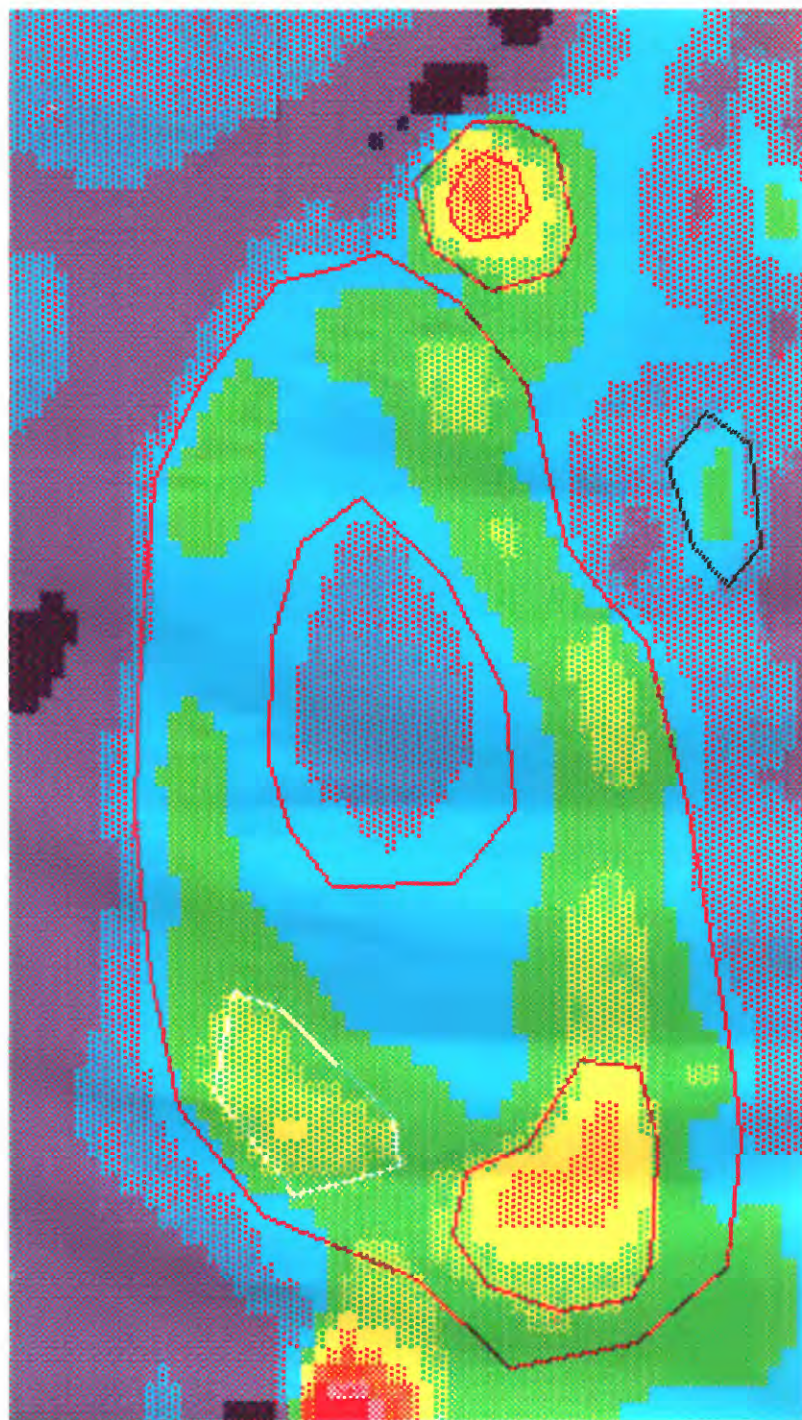

Figure 4 - Color plot of grid.
- (i) The user will be prompted for parameters to use when coloring the grid on the screen, these parameters will be used throughout the current POLYGON session. After the parameters are entered the grid is drawn in color and the user is placed in the POLYGON add/.../edit\_poly mode. The example below shows the dialogue when entering the coloring parameters. Figure 4 is a color plot of the graphics screen after the grid is drawn.
To add a polygon enter the character "a" for "add" in the POLYGON add/.../edit\_poly mode. The corners of a polygon are entered by positioning the graphics cursor to the desired location and then pressing the appropriate key(s); Section I.B describes the key functions. The sides of the polygon are drawn as the corners are entered. The polygon is closed by positioning the graphics cursor to the final corner of the polygon to be entered and pressing (depending on the method selected) mouse button 2 or the "f" key on the keyboard, the remaining two sides of the polygon are then drawn. Figure 4, on page 16, shows several polygons drawn on the graphics screen.